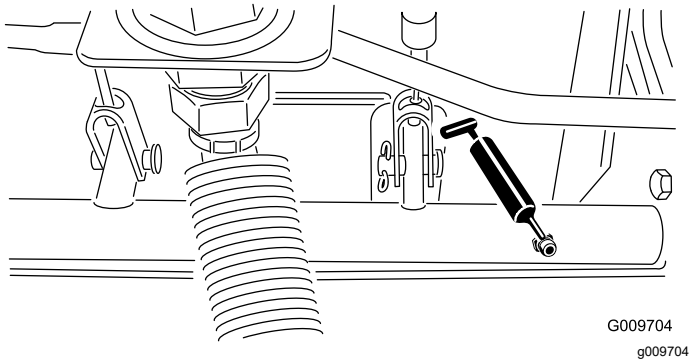

Figure 36
- Brake-shaft pivot bearings (5) as shown in Figure 36